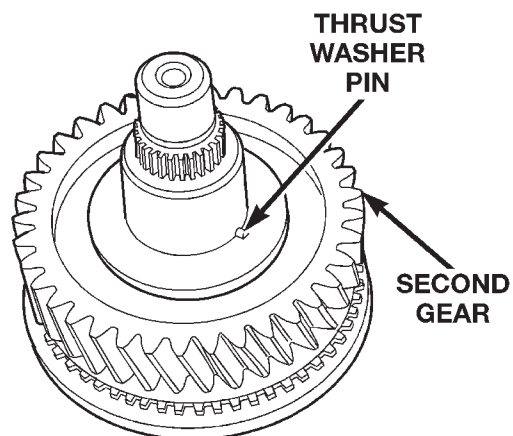

Fig. 105 Thrust Washer Pin Installation
(14) Install thrust washer pin in shaft (Fig. 105).